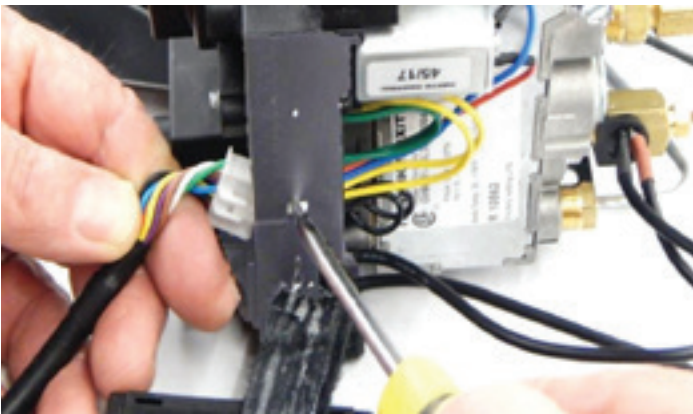

Figure 6
7. Insert screwdriver tip and push in connector tab to release and remove valve connector. **See Figure 6.**